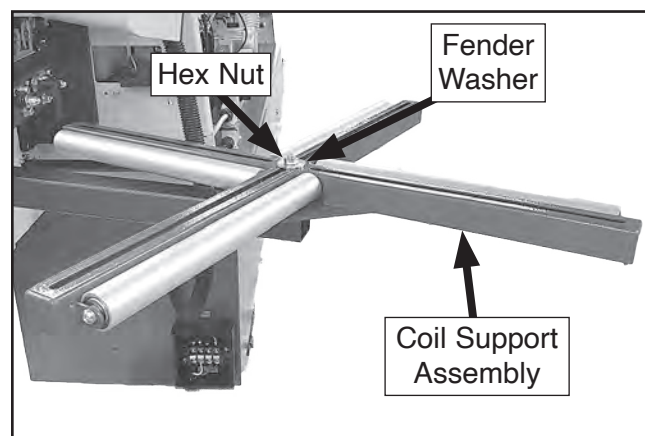

Figure 23. Coil support assembly installed.
7. Install coil support assembly on stud and secure with (1) M10-1.5 hex nut and 10mm fender washer (see **Figure 23**).